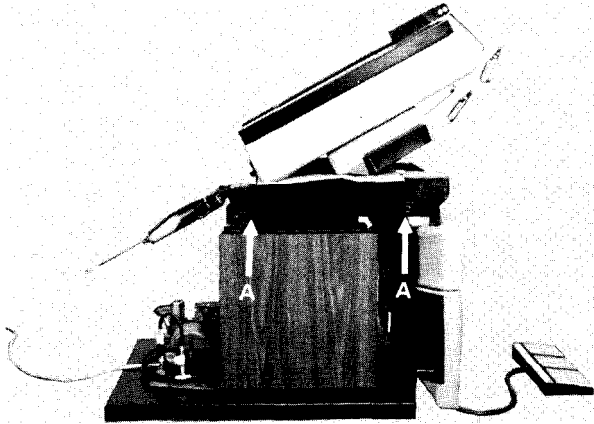

Fig. 26
- 8) Lower the back section against the seat section, with protection between. (See Fig. 16). With an assistant, remove table top section from base by lifting on points A shown Fig. 26 one man each side. Set table top on floor.
- 22) With an assistant, replace table top by lifting on points A shown Fig. 26 with back section folded onto seat section as shown Fig. 26 and place on base section. Be sure hose bundle fits into slot of seat section. While seat section is resting on base section, lift back section up and while holding this up, line up 6 bolt holes and attach 6 1/4-20 x 5/8" bolts with 7/16" socket wrench.